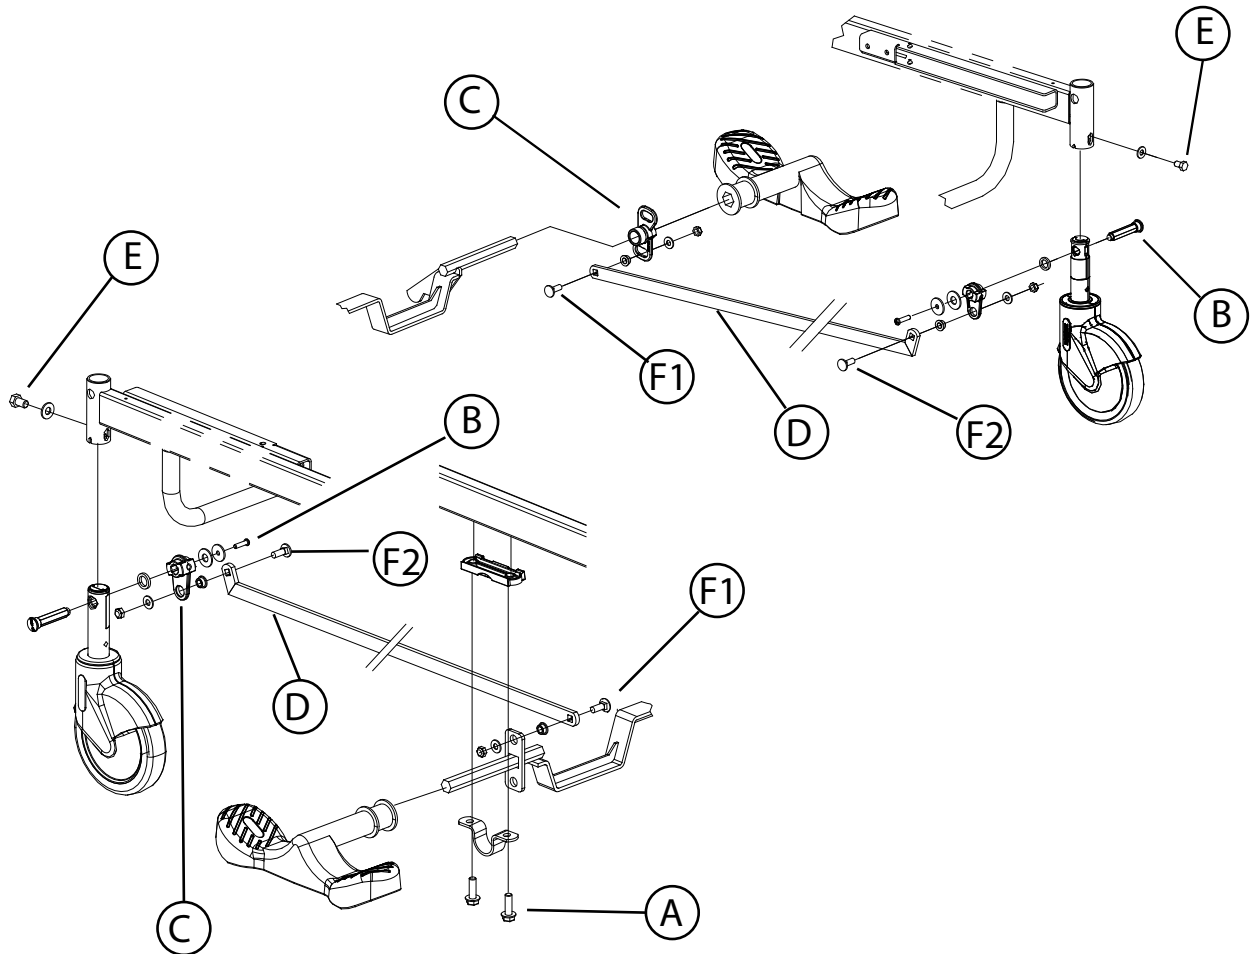

Figure 3.4B
3. Using a 1/2" socket, remove the two bolts (A) holding the fifth wheel support or the lever support (A, Figure 3.4B, page 37) on the side of the defective pedal and lay the support down. Keep the molded spacer (B).
3. Using a 1/2" socket, remove the two nuts, washers, bushings and bolts (F1, Figure 3.4B, page 37) linking the end of the brake rod to the locking levers, on the side of the pedals. If the optional four-wheel brake system is present on the bed, also remove the fasteners linking the end of the two other brake rods to the same locking levers.
4. Using a 1/2" socket, remove the four bolts (A) holding both fifth wheel supports to the base. Keep the molded spacers (B). Remove the assembly.
6. Remove and keep the two locking levers (C, Figure 3.4B, page 37).
Unless otherwise indicated, refer to Figure 3.4B on page 37 for the illustration of the references contained in the following replacement procedure.